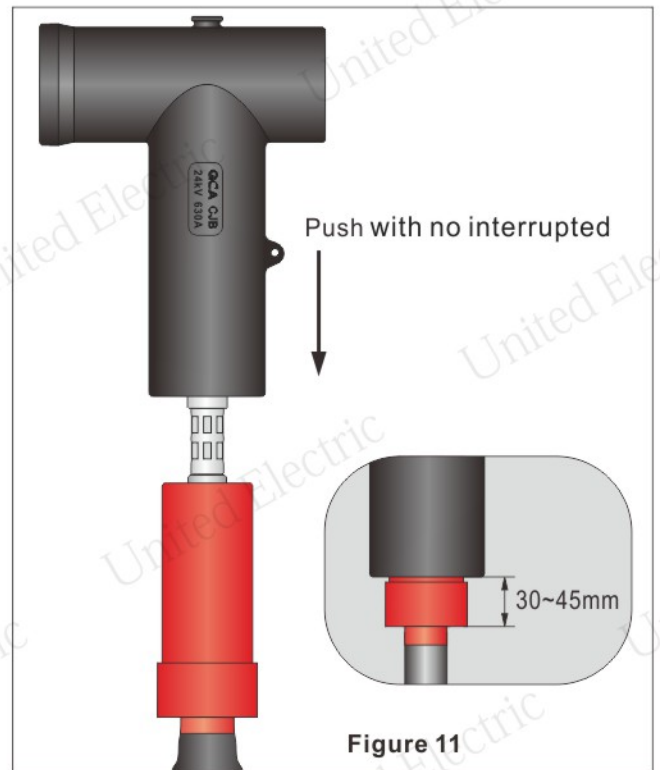

Figure 11
- Be noticed that the stress cone and PVC marker should not have any moving. The down end of the stress cone will expose for 30-45mm. (Figure 11)